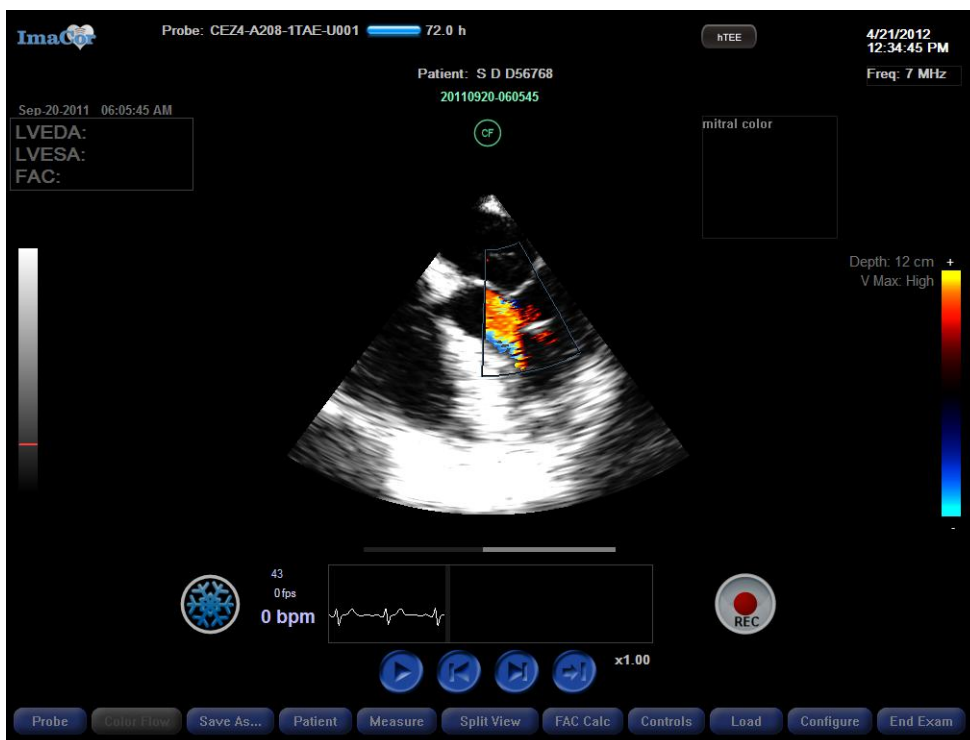

Fig. 86 Grayscale gradient bar showing priority setting
- 1 Tap or click the grayscale gradient bar on the left of the screen. A red horizontal bar appears indicating the position on the scale where priority has been set, as shown in Figure 86.